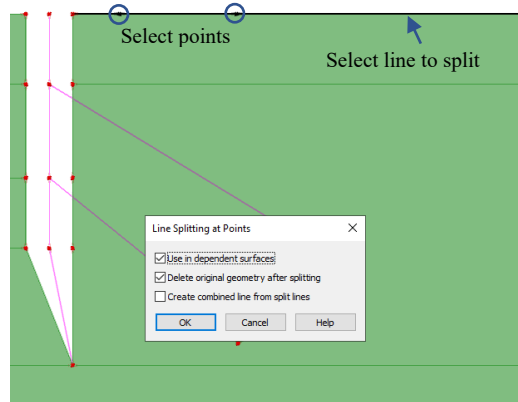

Figure 13: Splitting line for surface loading
- Select the line and the two points, then use **Geometry > Line > By Splitting > At a Point...** Leave the defaults and click **OK** (figure 13).